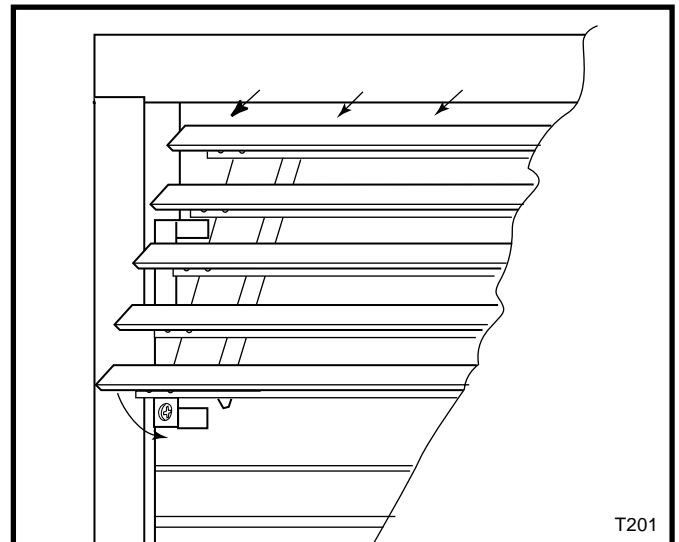

Fig. 30 Hook first or second louvre blade (depending on fireplace model) onto top tabs of louvre brackets.
1. To install the upper louvre assembly, the second louvre blade from the top on each louvre assembly will hook onto the top tabs of the louvre brackets. (Fig. 30)
2. Once the second louvre blade has engaged the top tab of the end brackets, swing the bottom of the louvre assembly inward so the louvre hangs flush with the fireplace face. (Fig. 30)